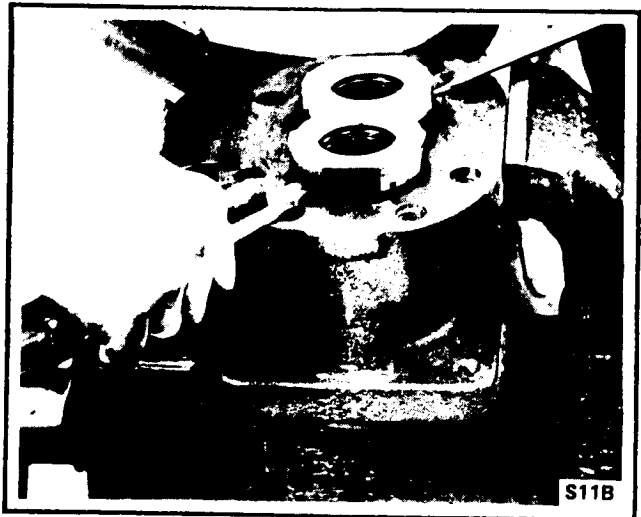

Fig. 12 - Removing Thrust Plate
10. Pry the thrust plate from the shaft end cover, port end cover or bearing carrier with a screwdriver or similar tool. Avoid distorting the thrust plate. Remove and discard all rubber pocket seals and gasket seals. See Fig. 12.